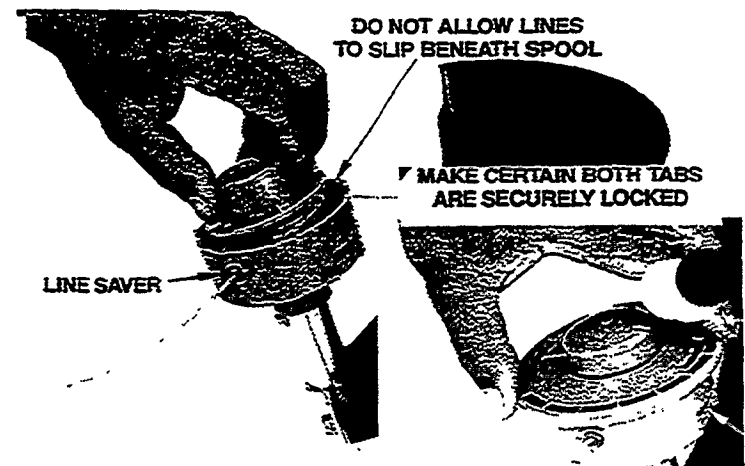

Figure 16
- Align locking tabs on head cap with their respective slots (Fig. 16), and push cap down until it locks in place.